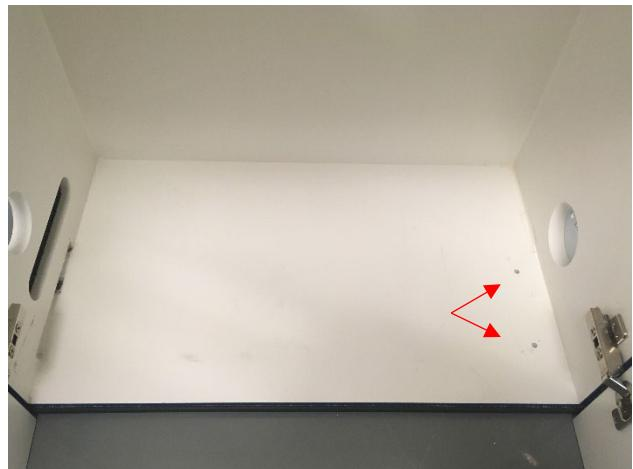

Figure 108 Breadboard anchoring holes
- See Figure 108 for the results of this step.